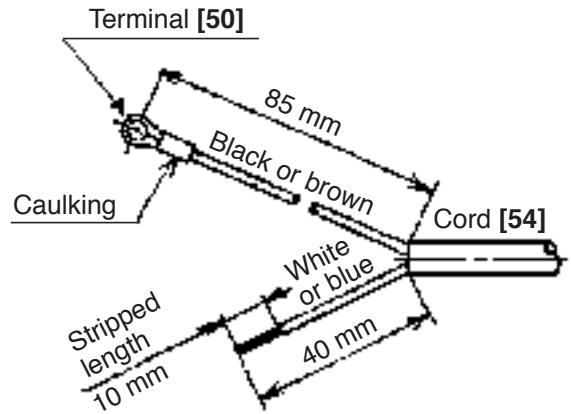

Fig. 5
- 1) Remove the standard cord (cord armor is integrally molded) according to the procedure of 8-1 (3).
- 2) Strip the coating on the internal wire of the Cord [54] about 10 mm from the tip and crimp the Terminal [50] to the brown or black internal wire as shown in Fig. 5.